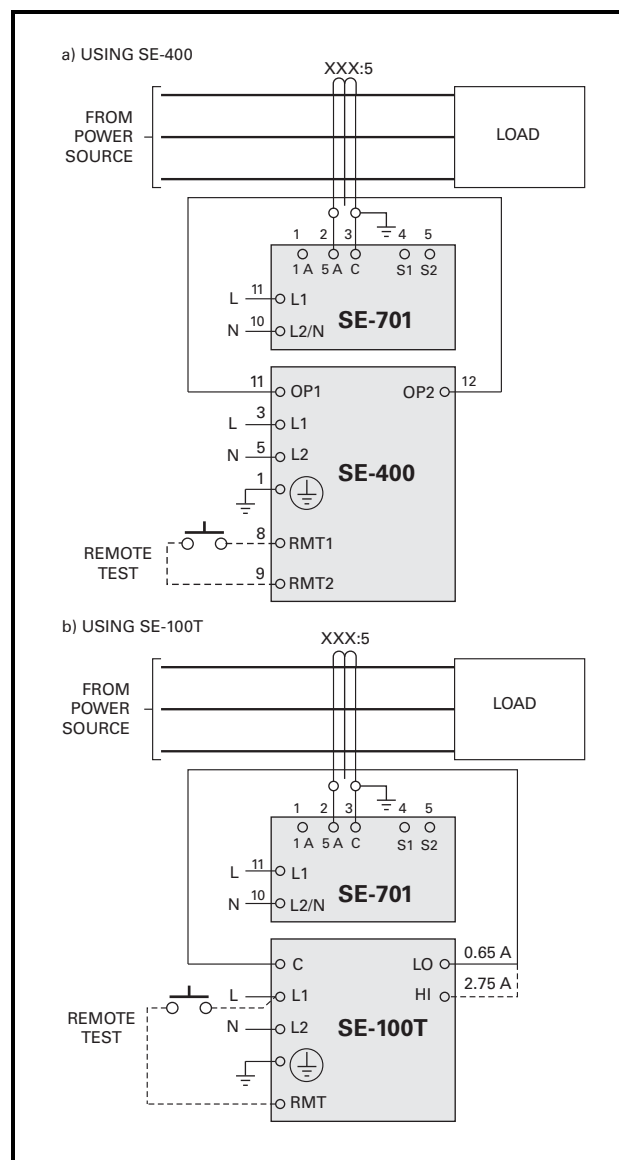

FIGURE 12. Ground-Fault-Test Circuits.
- Verify proper reaction of the circuit-interrupting device in response to a simulated or controlled ground-fault current. To simulate ground-fault current, use CT-primary current injection. Fig. 12 (a) shows a test circuit using an SE-400 Ground-Fault-Relay Test Unit. The SE-400 has a programmable output of 0.5 to 9.9 A for a duration of 0.1 to 9.9 seconds. Set the test current to 120% of the SE-701 setting. Fig. 12 (b) shows a test circuit using an SE-100T Ground-Fault-Relay Tester. The SE-100T provides a test current of 0.65 or 2.75 A for testing 0.5- and 2.0-A trip levels. Inject the test current through the current-sensor window for at least 2.5 seconds. Verify that the circuit under test has reacted properly. Correct any problems and re-test until the proper reaction is verified.